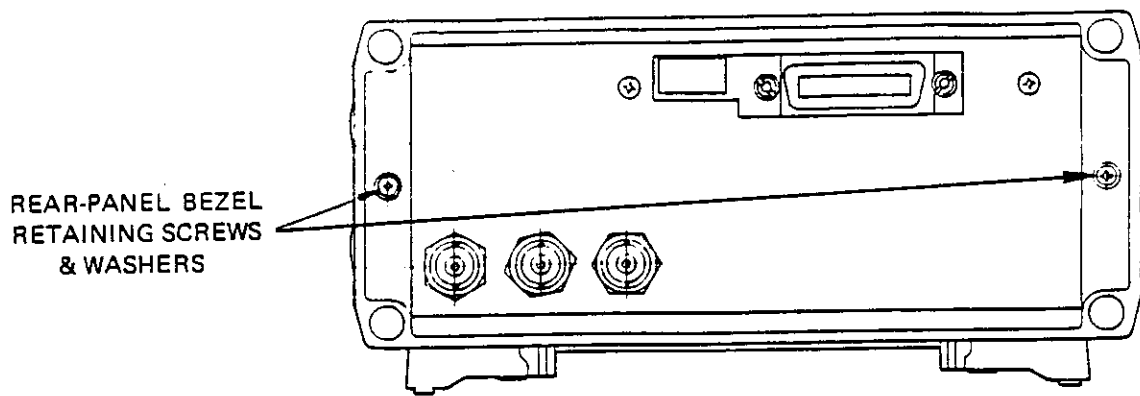

Figure 6.1 - Rear-Panel Bezel Removal
- b. Remove the two screws and washers securing the rear-panel bezel shown in Figure 6.1. Then remove the bezel